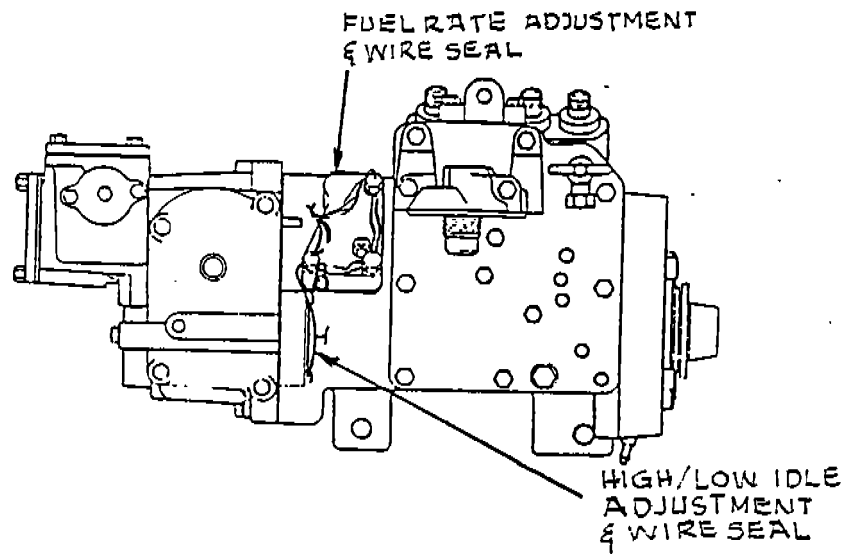

FIGURE 2 - SEALED ENGINE ADJUSTMENTS
(WEEKLY) 6. ☐ The fuel injection rate adjustment mechanism (3)* and the engine governor setting are locked and sealed (see Figure 2).